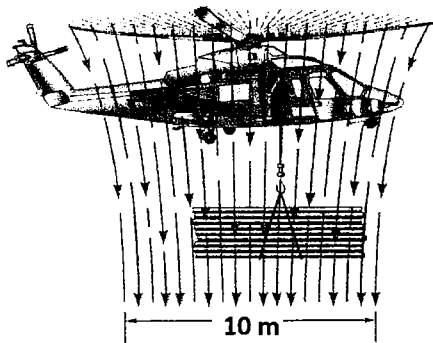

Fig. 1
- (1) (Please see Fig. 1) The helicopter shown can produce a maximum downward air speed of 25 m/s in a 10 m-diameter slipstream. Knowing that the weight of the helicopter and its crew is 18 kN and assuming $\rho=1.21 \text{ kg/m}^3$ for air, determine: (a) the governing equation for the steady stream (10%); (b) the mass flow rate in the slipstream (5%); (c) the maximum load that the helicopter can lift while hovering in midair (10%).